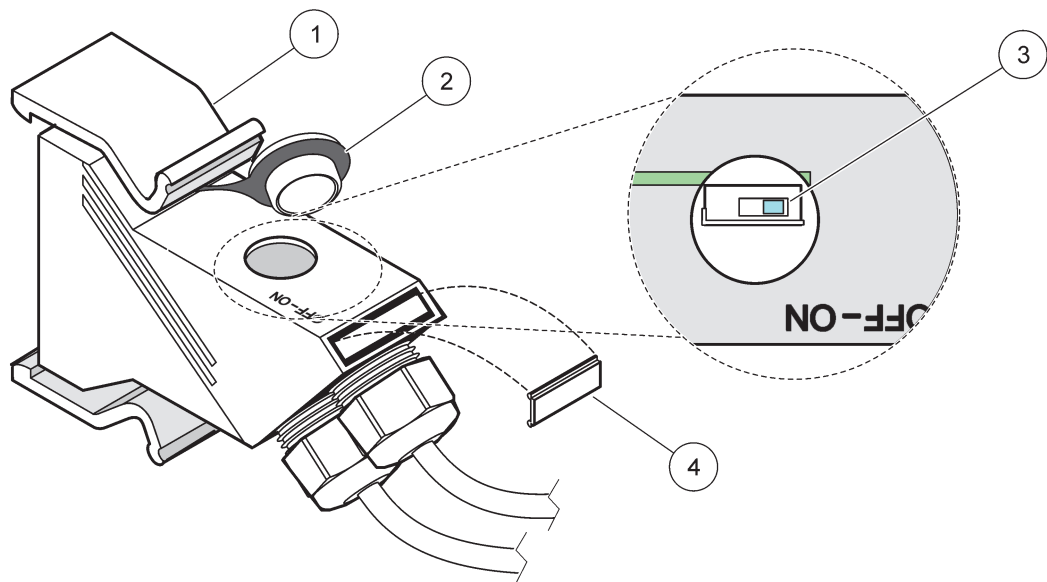

Figure 32 Setting a terminating resistor (DIP switch in the connector)
14. Set a terminating resistor at the last network connector to the ON position (see Figure 32 and Table 11).